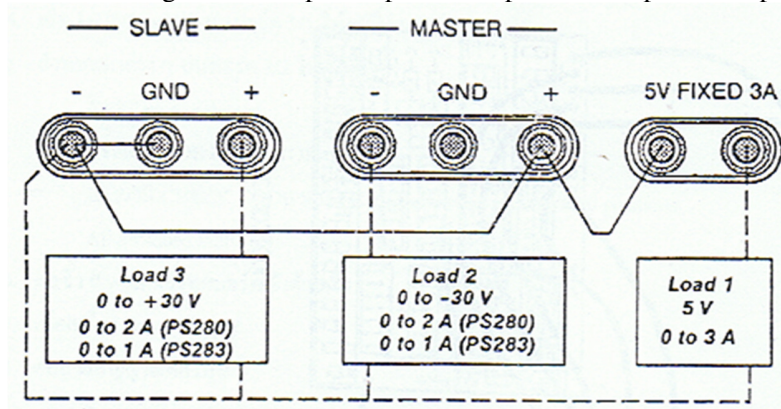

Figure 2: DC power supply configuration
1. Connect the power supply to the Modicom 1 board using the diagram shown in figure 2. Set the sampling control switch to “internal”.